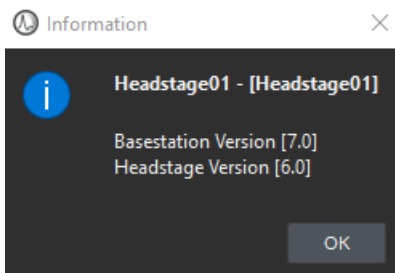

Figure 11.66: Channel(s) configuration window, Wireless Photometry, Info
- d) The **Info** (Fig. 11.66) displays the firmware version of the base-station and the headstage.